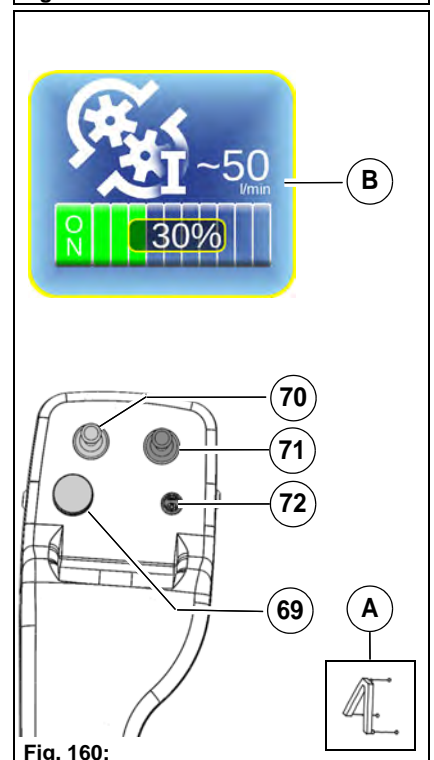

Fig. 160:
1. Switch on the work mode with the Hako button **Fig. 160-72**. The accelerator pedals must be in the neutral position. The coupling triangle work mode symbol appears in the multifunctional display Fig. 160-A.
2. Switch on the hydraulic circuit I for front tool carriers **Fig. 160-B** and set it to 50 litres/min. with the turn-push knob **Fig. 160-69** in the working menu of the multifunctional display.